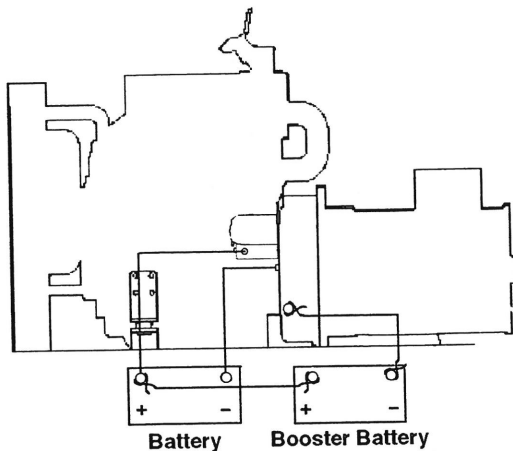

Figure 14. Battery Connections (NL488 shown)
3. First, connect positive (+) terminal of booster battery to positive (+) terminal of main battery. Then, connect negative (-) terminal of booster battery to ground on the engine block. (Fig. 14.)